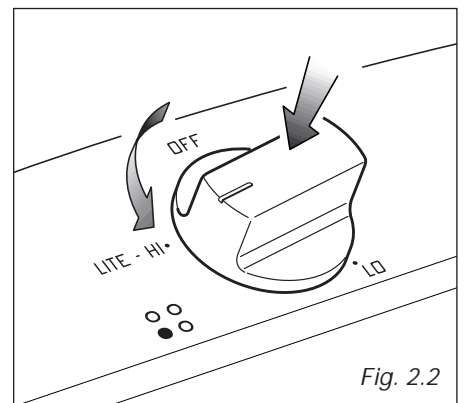

Fig. 2.2
- 1 – Turn the knob in an anti-clockwise direction up to the LITE-HI position (maximum rate), push in, hold the knob until the flame has been lit (fig. 2.2). The sparks produced by the lighter situated inside the relative burner will light the flame.